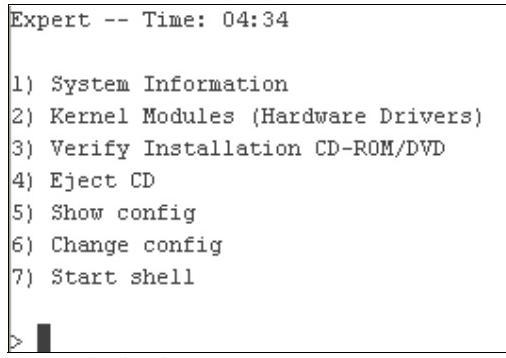

Figure 9-13 Expert
2. Choose **2) Kernel Modules (Hardware Drives)**, as shown in Figure 9-13 on page 377.